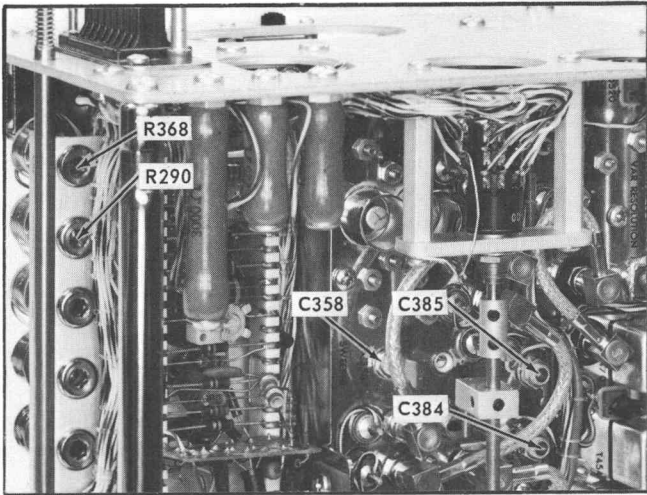

Fig. 6-4. Location of Dispersion adjustments (Step 2).
e. Adjust C358 (see Fig. 6-4) and the front panel DISP CAL adjustment for 1 marker/centimeter over the middle eight centimeters of the display. If the dispersion is non-linear, readjust R290 (IF CF Range) while adjusting C358 to obtain the best dispersion and linearity. Monitor Pin P with the test oscilloscope to keep the voltage at this pin between -0.8 and -1.1 volts. Also check for an IF CENTER FREQ range of ≤ 20 MHz.
g. Adjust R368 (kHz/CM Cal- see Fig. 6-4) for 1 marker/2 centimeters.
h. If the display is not centered, adjust C384 and C385 (see Fig. 6-4) so that it is centered. If necessary, readjust R368 for the correct dispersion again.